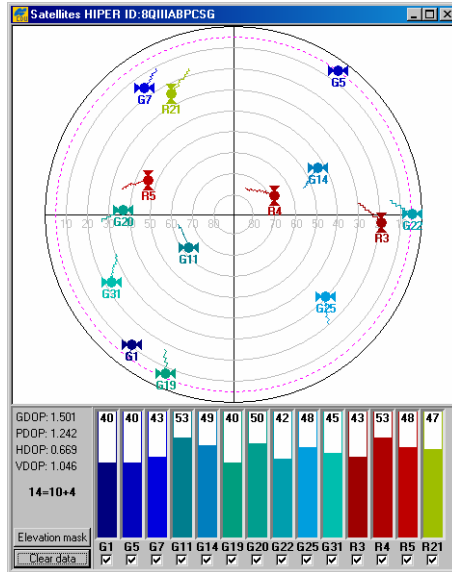

Figure 3-49. Satellites <Receiver ID>
- Dotted circle: the position/angle of the elevation mask. See “Elevation Mask Form” on page 3-93 for more information. (In Figure 3-49, the elevation mask is set to 5 degrees.)
- Number of satellites in view: the total number of satellites in view, including the number of GPS and GLONASS satellites. (In Figure 3-49, 10 GPS satellites are in view and 4 GLONASS satellites are in view for a total of 14 satellites.)